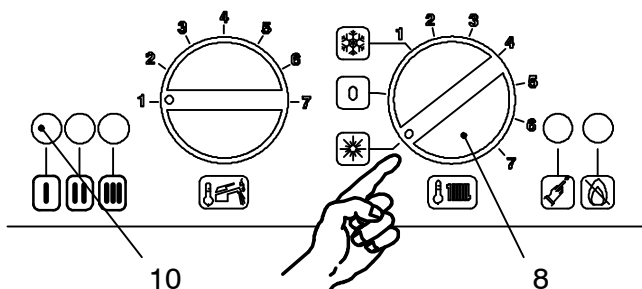

Fig. 2.5
- 4 If d.h.w. supply only is required (combi), position the function selector 8 as in Fig. 2.5. The appliance operation light 10 will flash every 2 seconds (operating boiler).